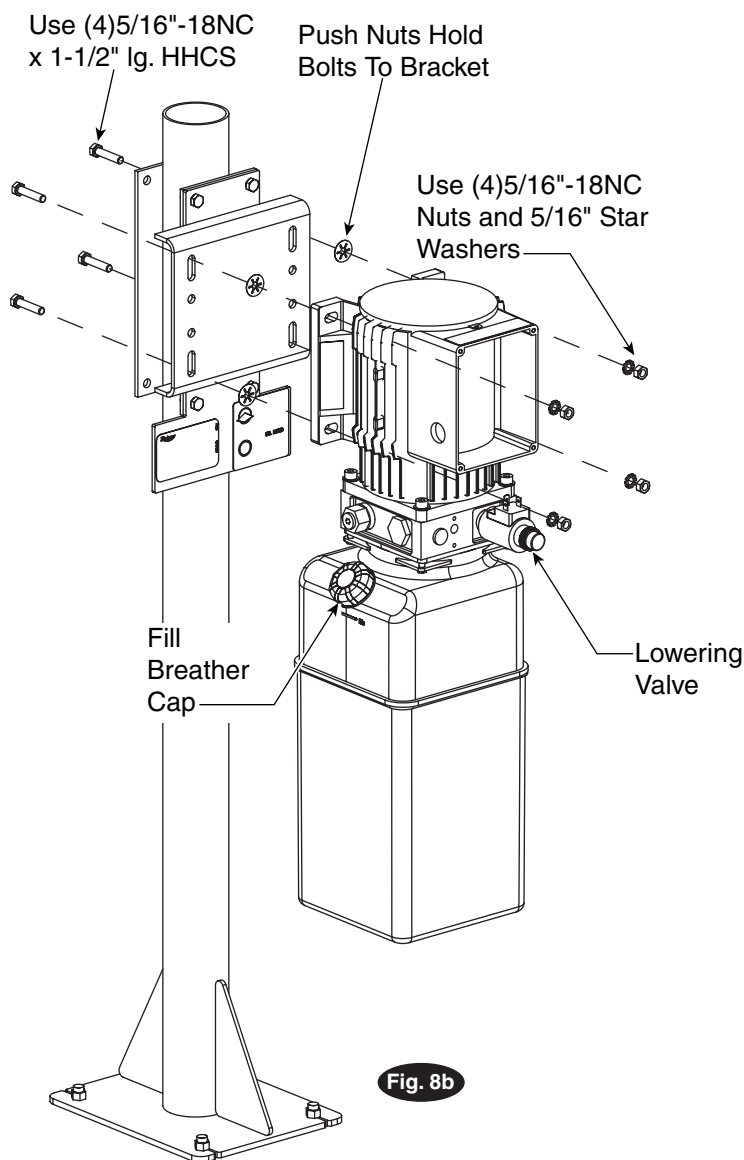

Fig. 8b
- H.** Put (4) 5/16"-18NC x 1-1/2" HHCS through power unit bracket using push-nuts to hold in place, Fig. 8b.
- I.** Mount power unit, with motor up, to the power unit bracket and install (4) 5/16" nuts and lock washers, Fig.8b.